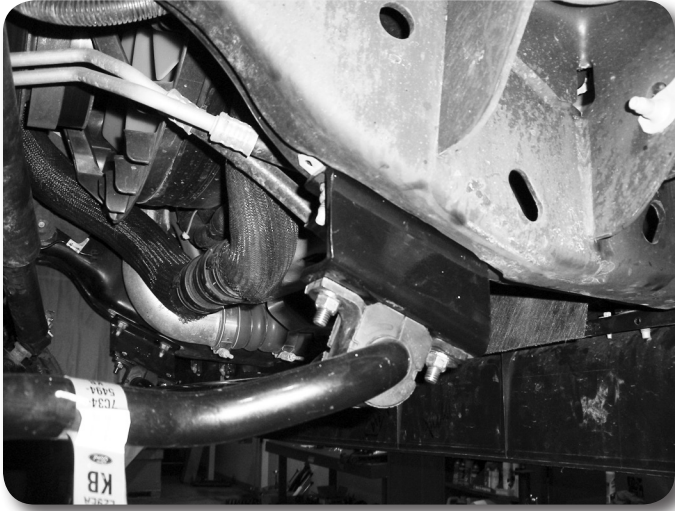

Figure 17
33. Locate the new sway bar drop brackets. Install the brackets on the frame with the original sway bar mount hardware. When installed the brackets should offset toward the front of the vehicle and the open face point to the inside. **Figure 17** Leave hardware loose.